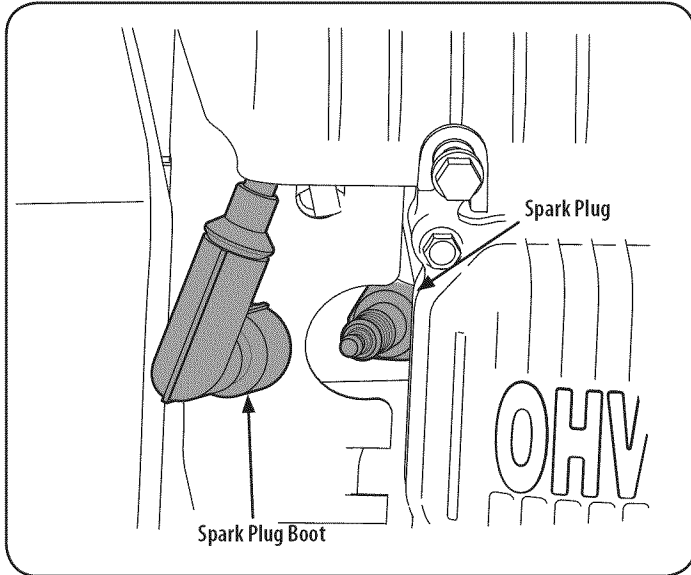

Figure 30
1. Remove the spark plug boot and use a spark plug wrench to remove the plug. See Figure 30.